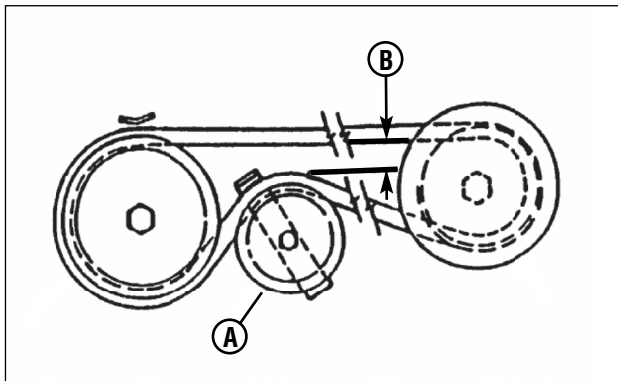

Figure 36: Measuring the belt spacing
3. Place the deck cutting height lever in the third position (middle notch). Measure the belt spacing (**B**, **Figure 36**) between the idler pulley (**A**) and belt. The distance should measure 1-1/4" but no less than 1".